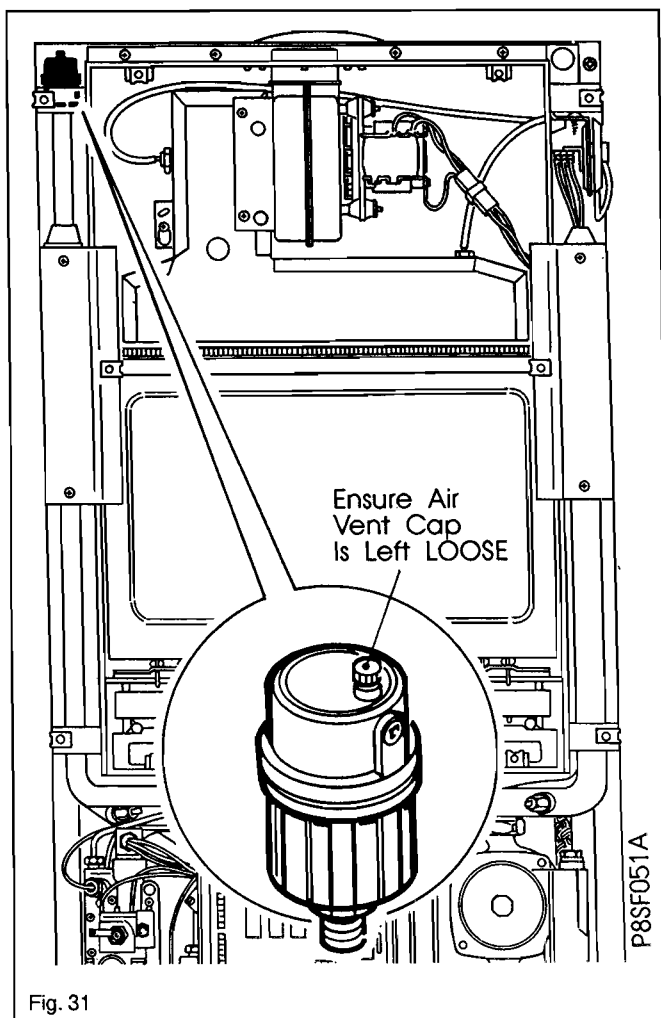

Fig. 31
6.28 Automatic Air Vent (See Fig. 31)